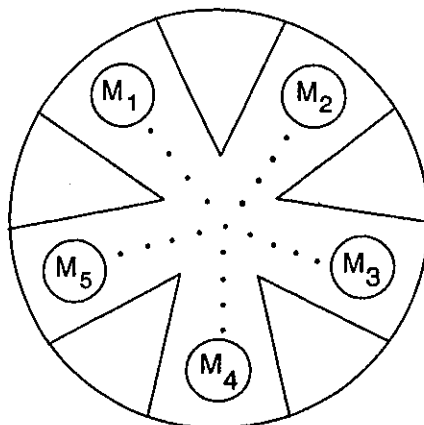

Figure 1
A voltaic cell utilizes a spontaneous oxidation-reduction reaction to produce electrical energy. Half-cells are normally produced by placing a piece of metal into a solution containing a cation of the metal (e.g., Cu metal in a solution of  $\text{CuSO}_4$  or  $\text{Cu}^{2+}$ ). In this micro-version of a voltaic cell, the half cell will be a small piece of metal placed into 3 drops of solution on a piece of filter paper. The solution contains the cation of the solid metal. Figure 1 shows the arrangement of half-cells on the piece of filter paper. The two half-reactions are normally separated by a porous barrier or a salt bridge. Here, the salt bridge will be several drops of aqueous  $\text{NaNO}_3$  placed on the filter paper between the two half cells. Using the computer as a voltmeter, the (+) lead makes contact with one metal and the (-) lead with another. If a positive voltage is recorded on the screen, you have connected the cell correctly. The metal attached to the (+) lead is the cathode (reduction) and thus has a higher, more positive, reduction potential. The metal attached to the (-) lead is the anode (oxidation) and has the lower, more negative, reduction potential. If you get a negative voltage reading, then you must reverse the leads.
- Obtain a piece of filter paper and draw five small circles with connecting lines, as shown in Figure 1. Using a pair of scissors, cut wedges between the circles as shown. Label the circles  $M_1$ ,  $M_2$ ,  $M_3$ ,  $M_4$ , and  $M_5$ . Place the filter paper on top of the glass plate.